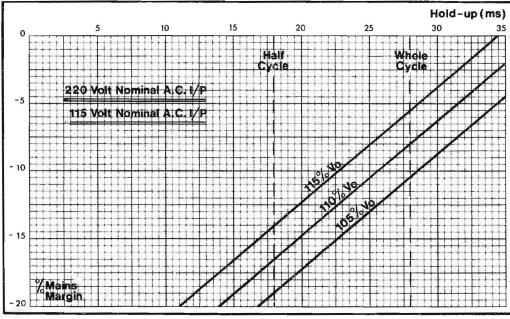
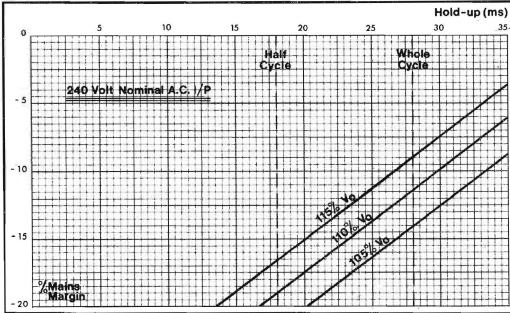
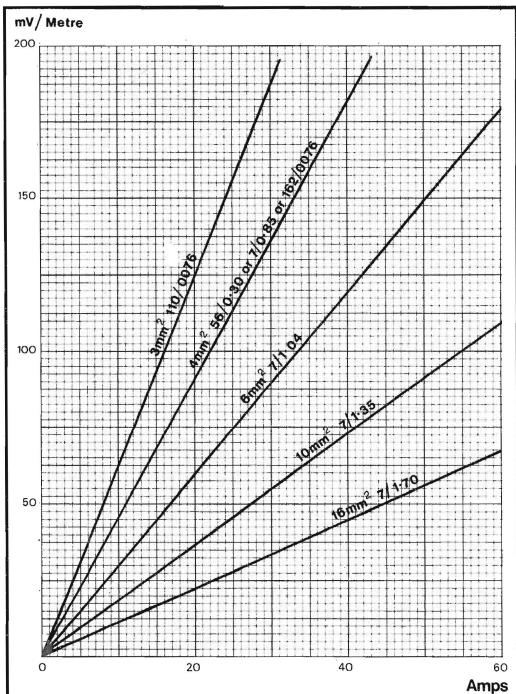

Fig. 1
Fig. 2
Fig. 3
* Units MG5-10, MG5-60A and MG24-12A can also be used at input voltages in the range 100V to 115V within the limitations of the output characteristic curve Fig. 1.
Available from front panel, total voltage drop in the output leads should not exceed 5V max. in each lead. See output characteristic curves, Figs. 1 and 2, for limitations.
The output is available at the large studs on the front panel, the positive and negative terminals being identified + and - respectively. On the MG5-10 only the output is taken from the 6-way terminal block on the front panel. The wiring to the load should be such as to ensure that the lead voltage drop does not exceed the level determined from Fig. 1 or Fig. 2. Refer to Fig. 3 for the required size of cable.